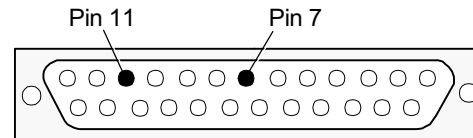

Figure A-4 Host Connector
2. Locate pins 7 and 11 on the host connector (figure A-4) and mark with a pen.